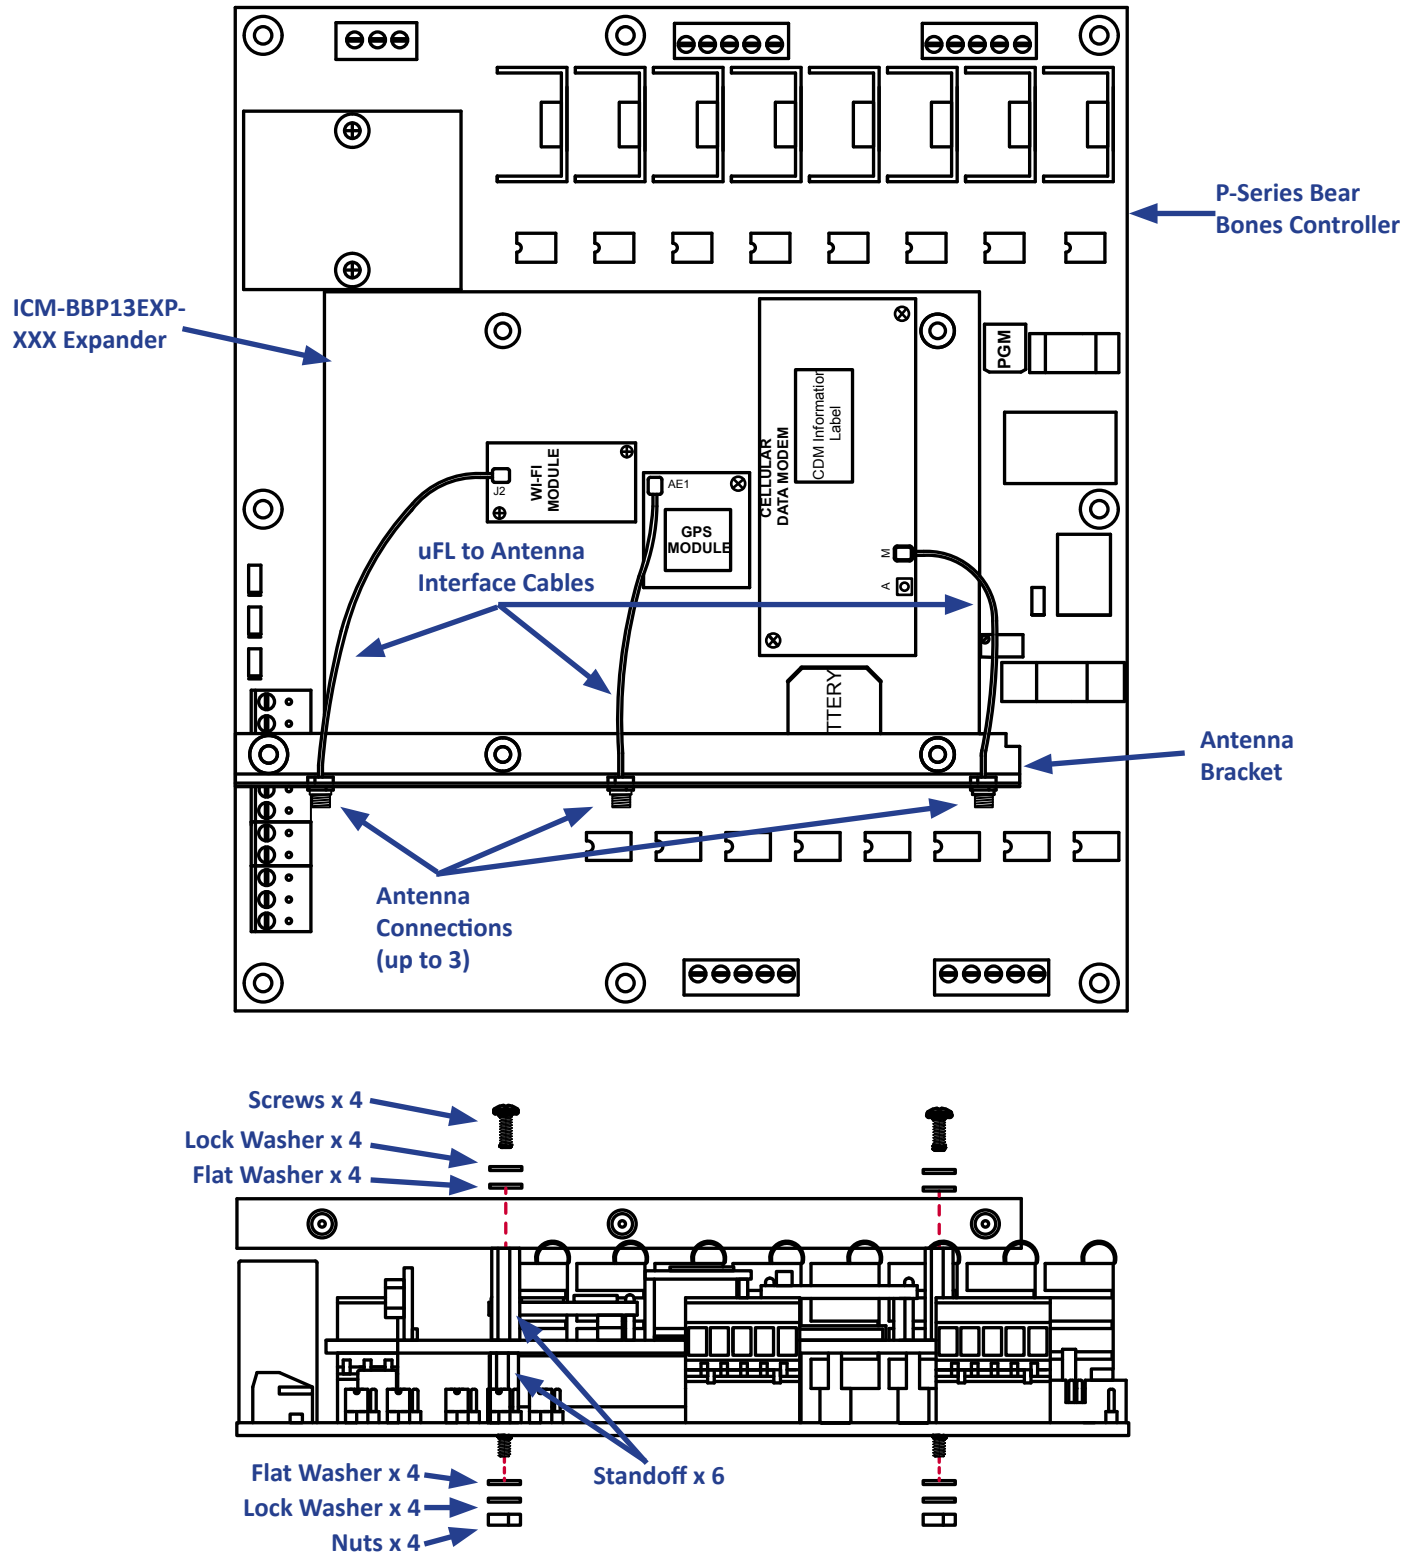

Figure 1-2 - ICM-BBP13EXP-XXX Mounting
The ICM-BBP13EXP-X-X-X expander ships with all the necessary hardware to mount the expander board to the P-Series Bear Bones controller (screws, standoffs, flat washers, lock washers and hex nuts). Additionally, all the antenna interface cables (pcb to SMA type connections), antennas and a plastic, L-shaped antenna bracket are also provided as a mounting location for the controller board's and expander board's communications antenna interface cables. Refer to Figure 1-2.
Refer to Figure 1-2 for mounting as follows.
2. Align the ICM-BBP13EXP-X-X-X expansion board over the P-Series Bear Bones controller with the large expansion connectors (2) and the standoffs installed in step 1. Firmly push into position (plug-in). All the mounting holes should align with the previously installed standoffs.
3. Install 1 standoff in two of the mounting holes of the ICM-BBP13EXP-X-X-X expansion board (screws into the standoffs previously installed) as shown in Figure 1-2, specifically where the L-Shaped antenna bracket is shown.
5. Install the L-Shaped antenna bracket to the two standoffs (top standoffs screwed into the lower standoffs) using (in order) 1 flat washer, lock washer and screw as shown in Figure 1-2 for each of the two mounting holes on the L-Shaped antenna bracket.
7. Carefully plug the uFL end of each antenna interface cable into the appropriate uFL connection point as shown in Figure 1-2. Each uFL connection gently plugs into the appropriate printed circuit board (PCB) connector vertically. Align vertically and plug-into position.
For Cellular connection supporting models of the ICM-BBP13EXP-X-X-X Expansion boards, the unit ships with a loose - packed antenna and uFL to SMA interface cable that must be installed before the Cellular connection will be able to function. Refer to Figure 1-2, for mounting and connecting the interface cable.